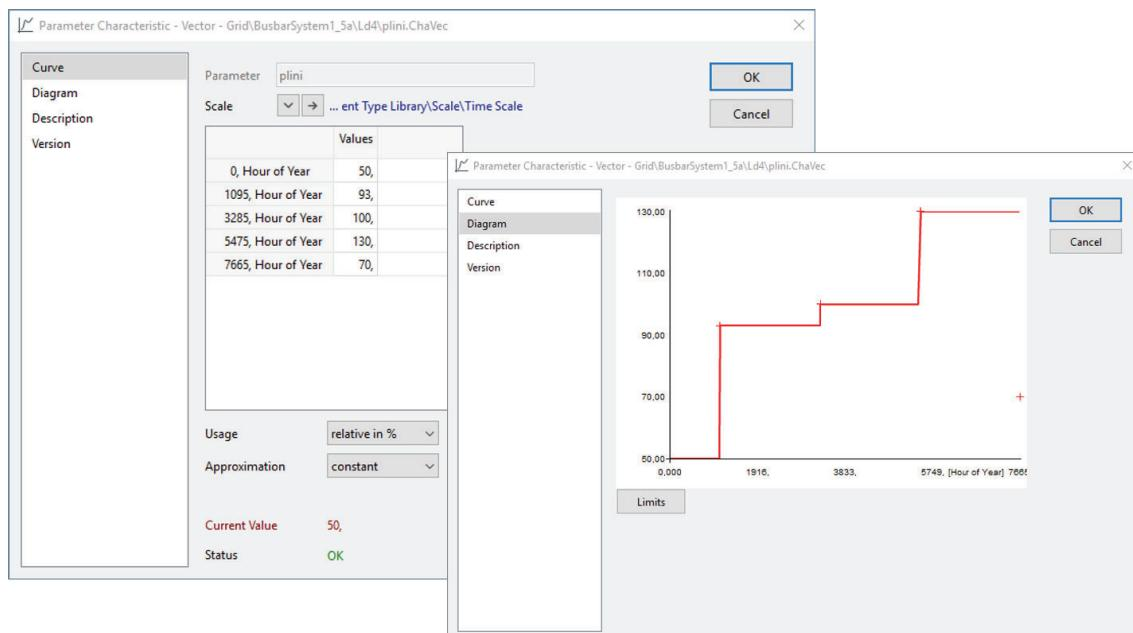
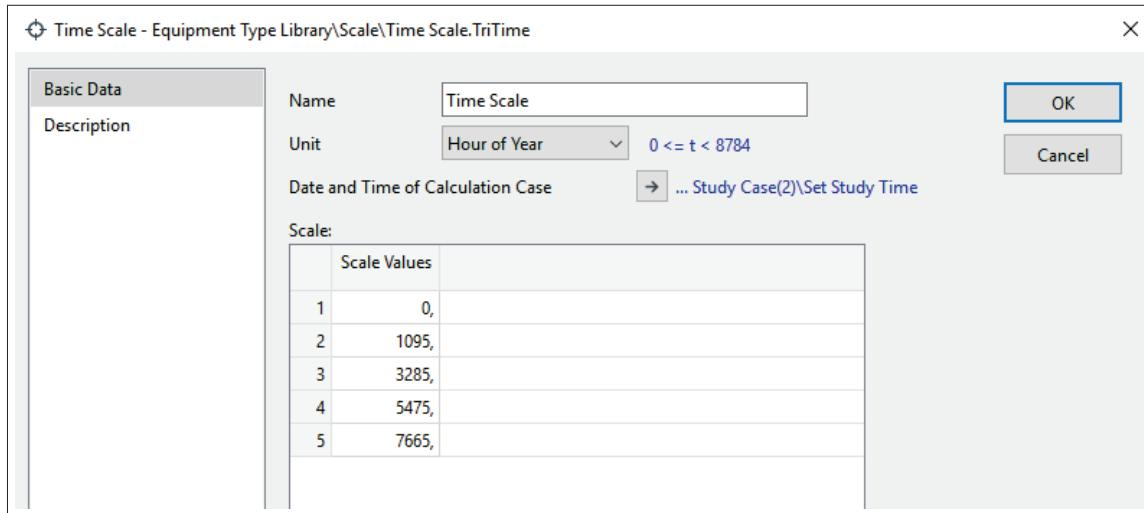

Figure 18.3.1: Load State Vector Characteristic
Figure 18.3.2: Time Scale for Load State Characteristic
1. The Vector Characteristic shown in Figure 18.3.1 is applied to both Active Power and Reactive Power of load Ld4 only, with the associated Time Scale shown in Figure 18.3.2 Ld4 is initially set to 3.1 MW, 0.02 Mvar.